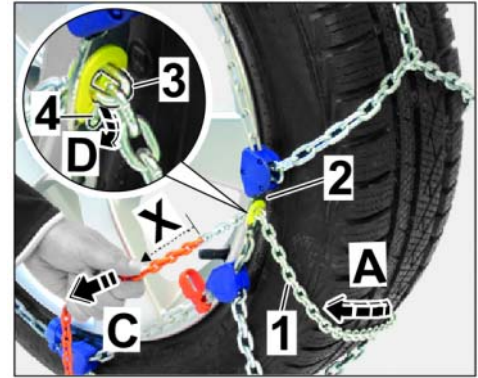

Figure 11
2.2.5 Pull the tensioning chain tightly through the locking plate (⇒ *Figure 11-C-*).
Check that the colored part of the tensioning chain (⇒ *Figure 11-X-*) is pulled completely through the locking plate.
Engage chain link of the tensioning chain in the slot and lock on the locking plate (⇒ *Figure 11-D-*).